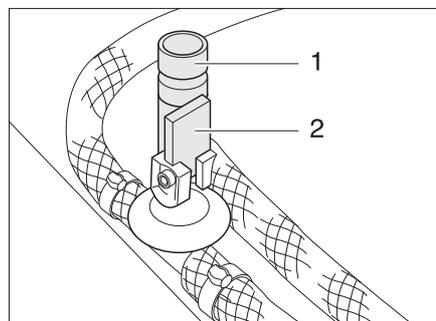

Fig. 130 Drain cocks for Truma boiler
- Close all boiler drain cocks. To do this, position the rocking lever (Fig. 130,2) horizontally or turn the cap (Fig. 130,1) in a clockwise direction.
- Open all boiler drain cocks. To do so, position the rocking lever (Fig. 130,2) vertically or turn the cap (Fig. 130,1) anticlockwise.